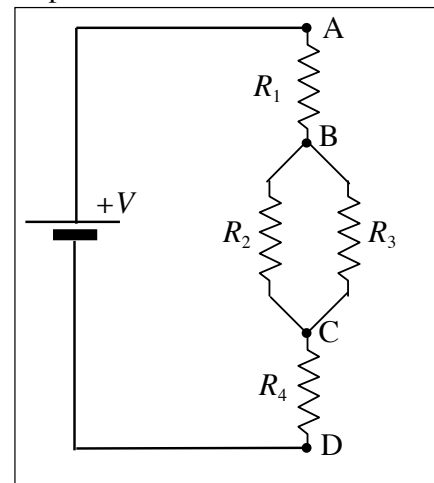

Figure 7 Input resistance
- Connect the circuit of figure 7 using four equal resistors of 10 M Ω each.